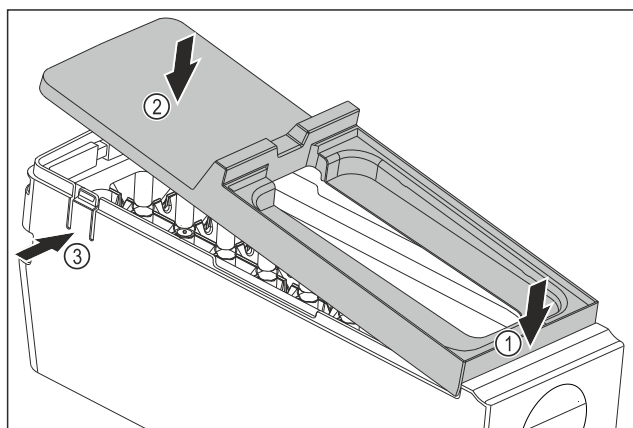

Fig. 81
- ▶ Installing the EasyTwist-Ice body cover: Place the cover on the front. Fig. 81 (1)
- ▶ Lower the cover at the rear. Fig. 81 (2)
- ▷ The cover locks into both tabs Fig. 81 (3) audibly.